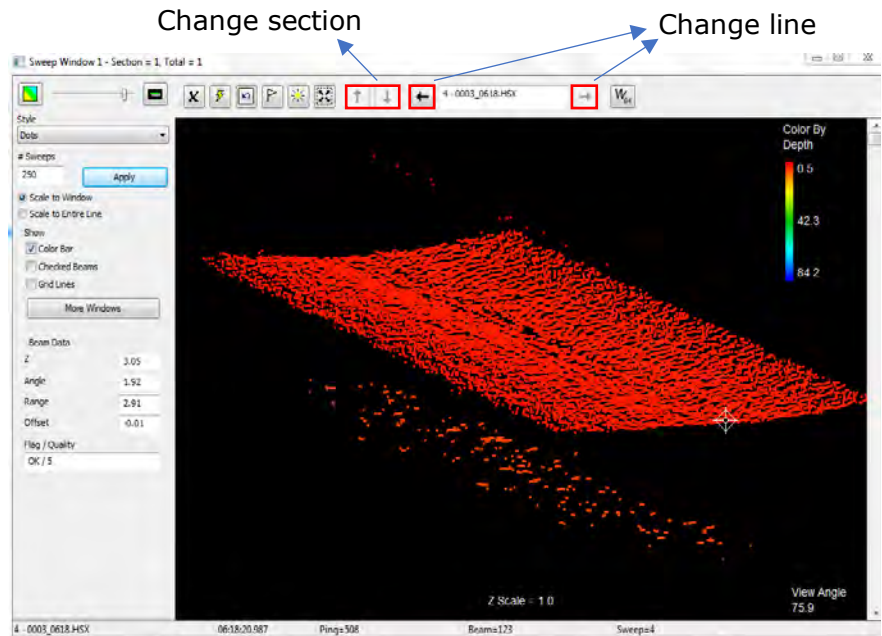

Figure 61: Sweep 1 window and change section/line buttons
- Scroll to the next section (Figure 61).
- Once all the sections of a single line have been cleaned, skip to another line (Figure 61).